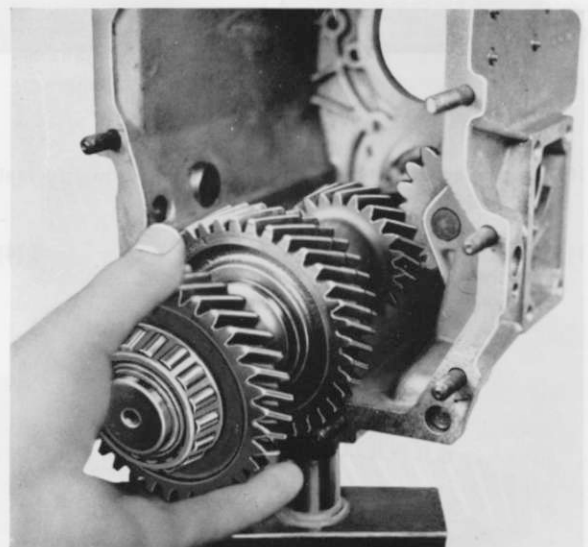

Fig. 40
3. Insert layshaft with the small teeth first into the housing (Fig. 40).
4. Place selector fork 1st and reverse gear (613) in the groove of the 1st and reverse sliding sleeve (420) and 2nd and 3rd selector fork (609) in the 2nd and 3rd sliding sleeve (406). The detent pad must lie on the side of the installed reverse gearwheel (502).